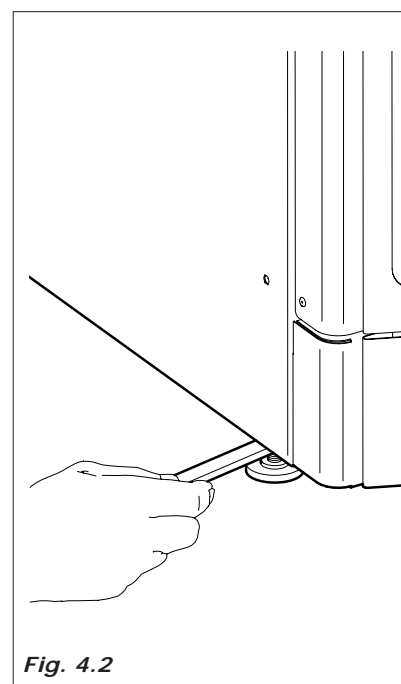

Fig. 4.2
- Position the distributor, checking the leveling by means of the adjustable feet already assembled on the machines (Fig.4.2). make sure that the distributor doesn't have an inclination of more than 2 degrees.